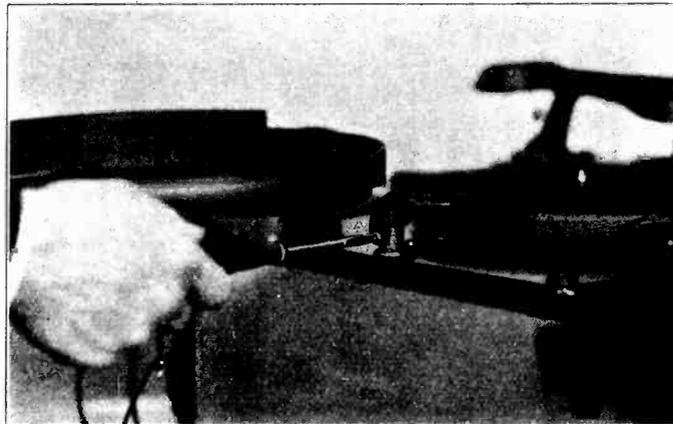

Figure 11—Adjusting Record Locating Plate
- (c) *Improper Setting of Record Locating Plate*—The small plate on top of the motor board at the left side of the turntable should be so adjusted that it will be depressed approximately $\frac{1}{32}$ " when the magazine swings over the turntable. When this adjustment is made correctly, the locating plate will engage the bottom record in the magazine as the latter is swinging back into the playing position. A small adjusting screw and lock nut are provided for this adjustment. (See Figure 11.)